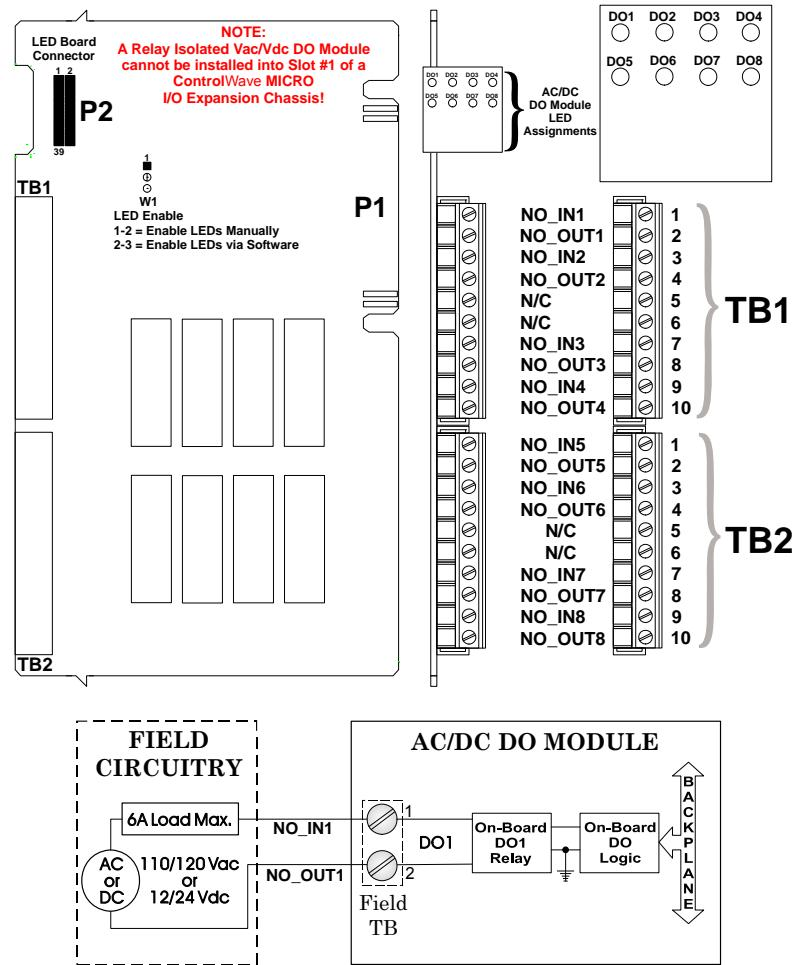

Figure 3-25. Relay Isolated Vac/Vdc DO Module Wiring (Local Termination)
**Wiring the Module** Figure 3-25 shows field wiring assignments for a locally terminated relay isolated Vac/Vdc DO module.